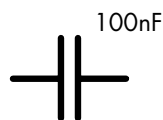

Figure 4-13: A nonpolarized capacitor schematic symbol, with the capacitor's value shown at the upper right
*Ceramic capacitors*, such as the one shown in Figure 4-12, are very small and therefore hold a small amount of charge. They are not polarized and can be used for current flowing in either direction. The schematic symbol for a nonpolarized capacitor is shown in Figure 4-13.